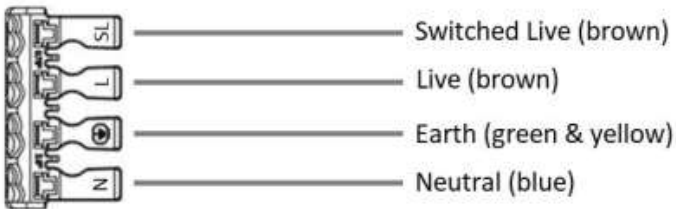

Fig. 2
- Ensuring correct polarity is observed, carefully wire as shown in Fig. 2